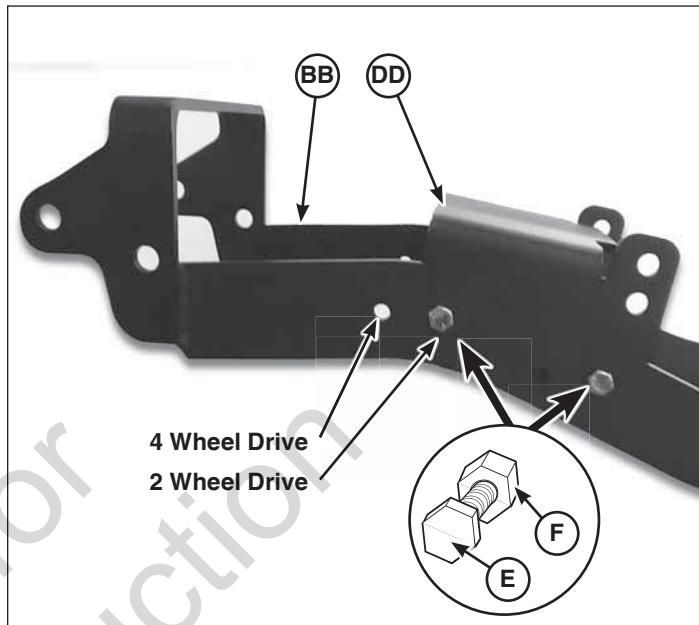

Figure 2
1. Attach push bar latch (**DD**, Figure 2) onto push bar assembly (**BB**). Secure with capscrews (**E**) and nuts (**F**) on both sides.
**NOTE:** Refer to Figure 2 for four wheel drive and two wheel drive push bar latch placement.